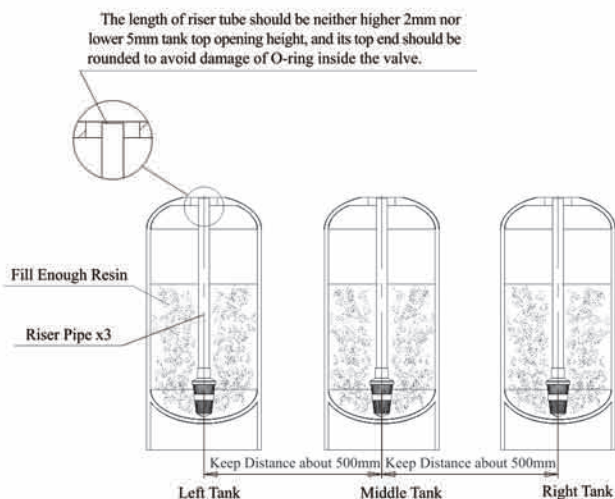

Figure 1
- ① The filter or softener should be located close to drain.
- ② Ensure the unit is installed in enough space for operating and maintenance.
- ③ Brine tank need to be close to softener.
- ④ The unit should be kept away the heater, and not be exposed outdoor. Sunshine or rain will cause the system damage.
- ⑤ Avoid to install the system in circumstance of Acid/Alkaline, magnetic or strong vibration, because above factors will cause the system disorder.
- ⑥ Do not install the filter or softener, drain pipeline in circumstance which temperature may drop below 5℃, or above 50℃.
- ⑦ One place is recommended to install the system which cause the minimum loss in case of water leaking.
① Install control valve
a.As the Figure 1 shows, prepare 3 pieces of resin tanks, keep the distances between tanks about 500mm, select the riser pipe with 26.7 mm OD, glue the riser pipe to the bottom strainer and put it into the resin tank, cut off the exceeding tube out of tank top opening. Plug the riser tube in case of mineral entering.